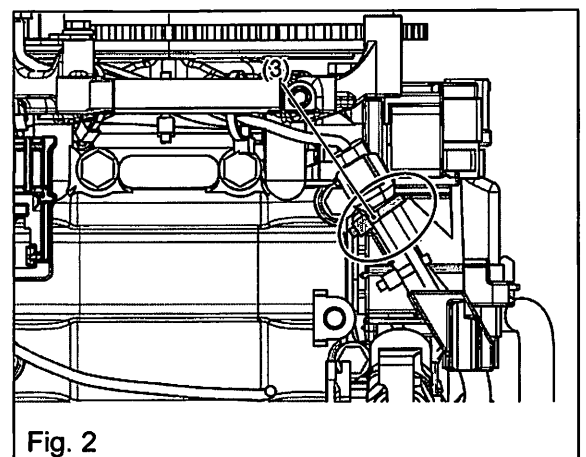

Fig. 2
Fix the clamp (3) other harnesses to the parts holder as shown in Fig. 2.